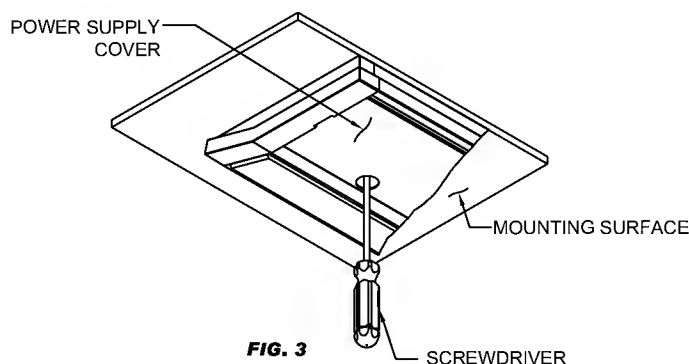

FIG. 3
4. Insert SCREWDRIVER through hole in POWER SUPPLY COVER and tighten down screws to secure luminaire firmly against MOUNTING SURFACE (FIG. 3).